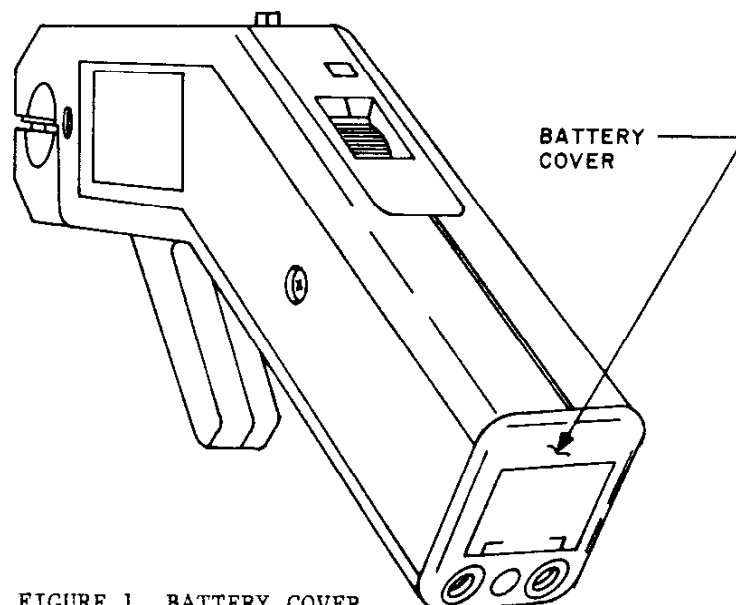

FIGURE 1, BATTERY COVER
- B. There are four "AA" alkaline batteries that supply 6V operating power to the Gun (See Figure 1). A "Battery Low" indicator, located on the Liquid Crystal Display (LCD), will appear when the batteries require replacement.